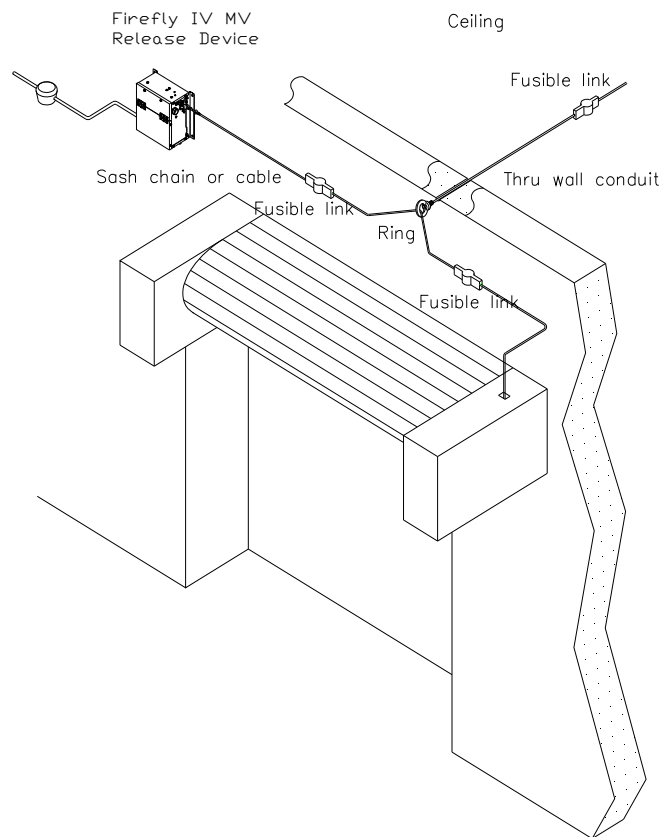
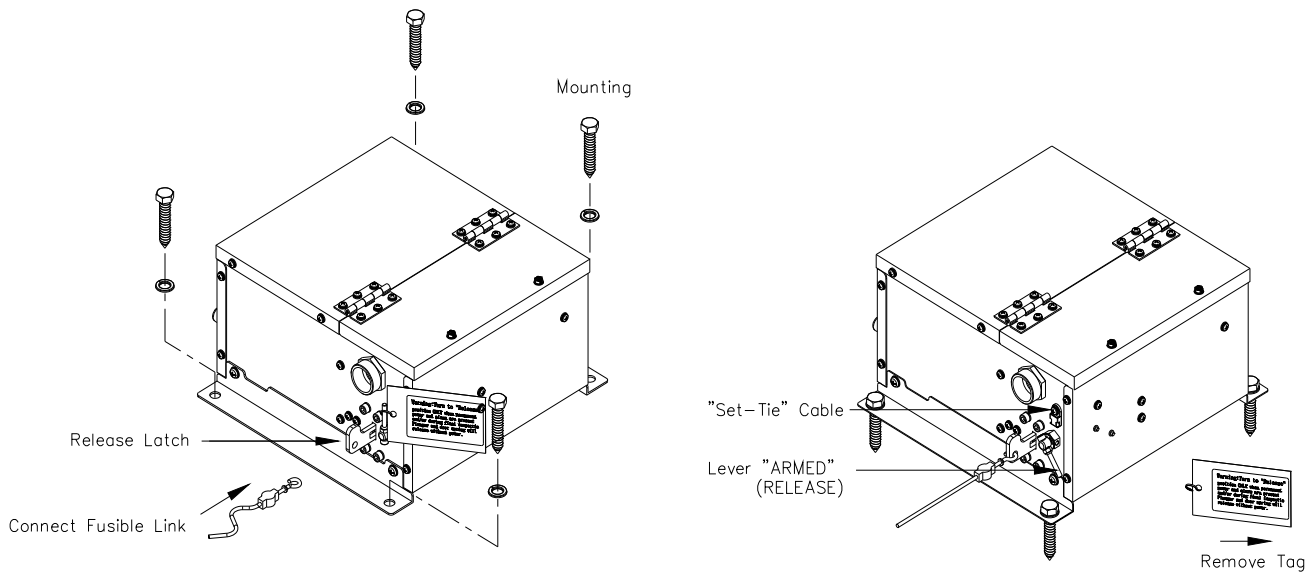

Figure 1
Figure 2
3. The release device shall be mounted on a vertical surface with chain end link exiting side of enclosure as illustrated on figure 1. The unit may be rotated 90 degrees CW for a direct vertical pull.
4. Release device and associated hardware [sash chain or 1/16 cable, eyebolts, fusible links (DO NOT install this unit without fusible links), turnbuckles] shall be installed as per door manufacturers recommendations (figure 1 typical installation configuration). Note should be taken that the end link direction of pull is perpendicular to the enclosure side. An eyebolt installed at a distance of 18 to 24 inches from the release device should adequately redirect sash chain pull as illustrated in figure 1. Please also see figure 2 for illustration.